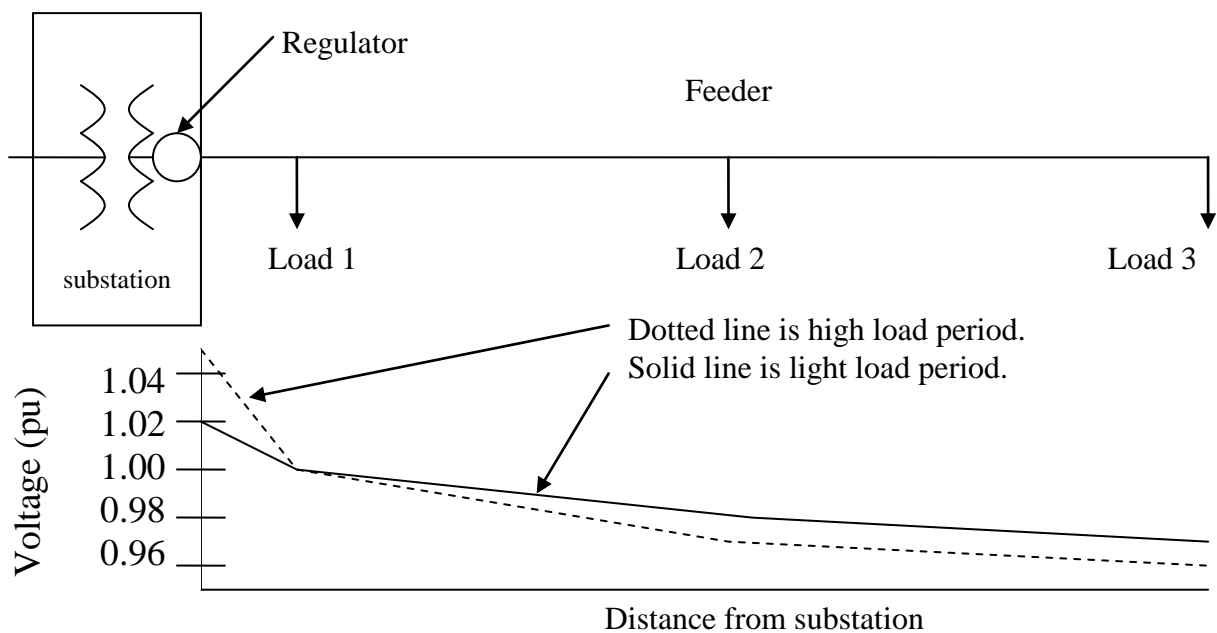

Fig. 3: Illustration of feeder load variation
3. Voltage regulation: Because current  $I$  flows from source to load along the length of the feeder, and because the feeder has some amount of impedance per unit length  $Z$ , the feeder will cause a voltage drop  $IZ$  volts per unit length. Thus, loads connected along the length of the feeder will see different voltage levels with the load at the far-end of the feeder seeing the lowest voltage of all. This is illustrated by the solid line in Fig. 3. Note that this line indicates the voltage at the substation end of the feeder is 1.02pu. However, the voltage at feeder far-end is about 0.97pu (residential customers would be seeing
about 116 volts instead of 120). If the load were to increase, the far-end voltage would drop to an even lower value. As a result, we must regulate the voltage along the feeder as the load varies. Ways to do this include substation load tap-changing transformers (LTCs), substation feeder or bus voltage regulators (employed in Fig. 3), line voltage regulators, and fixed or switched shunt capacitors.